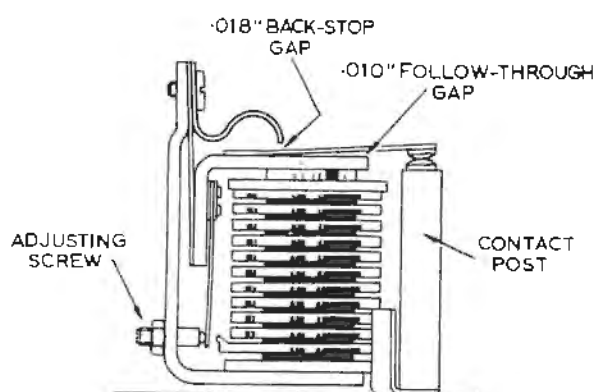

Fig. M.15.—Cut-out Relay Adjustments.
- (iii) Retaining the armature in this position, and using a pair of round-nosed pliers, adjust the armature backstop to give .018" clearance between backstop tip and contact blade, and then adjust the fixed contact post so that a follow through gap of approximately .010" is obtained between the moving contact blade and the front edge of the armature. (See Fig. M.15 and M.16.)